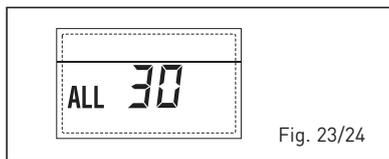

Fig. 23/24
**- ANOMALIE SONDE REFOULEMENT CASCADE "ALL 31" (fig. 23/25)**